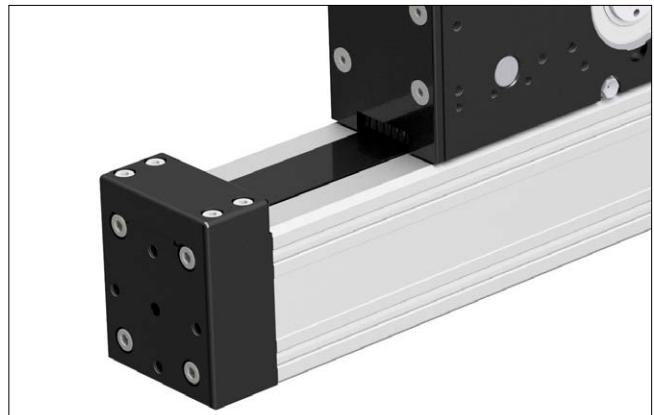

Figure 5.2 ____ AXF with toothed belt / Ω - drive
- Compact linear axis for the use as lifting axis for low and medium loads (Figure 5.2)